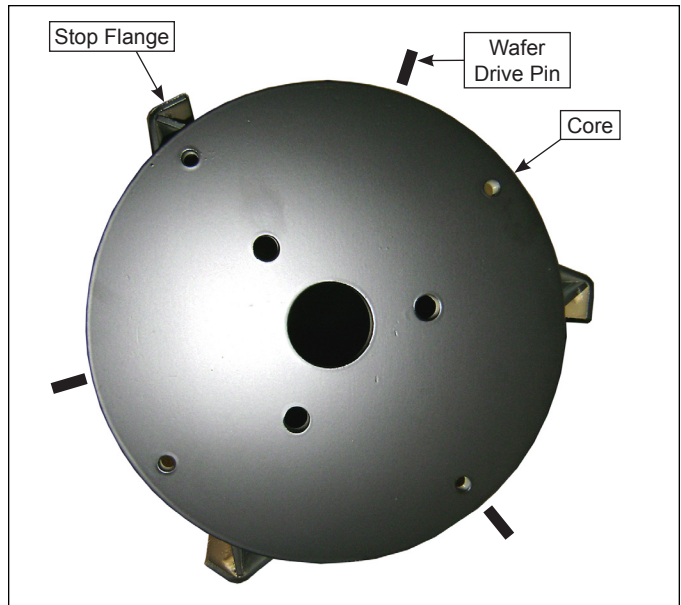

Figure 4
- a. Note the location of the drive pin on the inside ring of each brush wafer. Position each wafer so its drive pin is positioned between the stop flanges. Rotate each subsequent wafer before installing so the position of its pin is staggered on the core by one stop flange. See Figure 4.